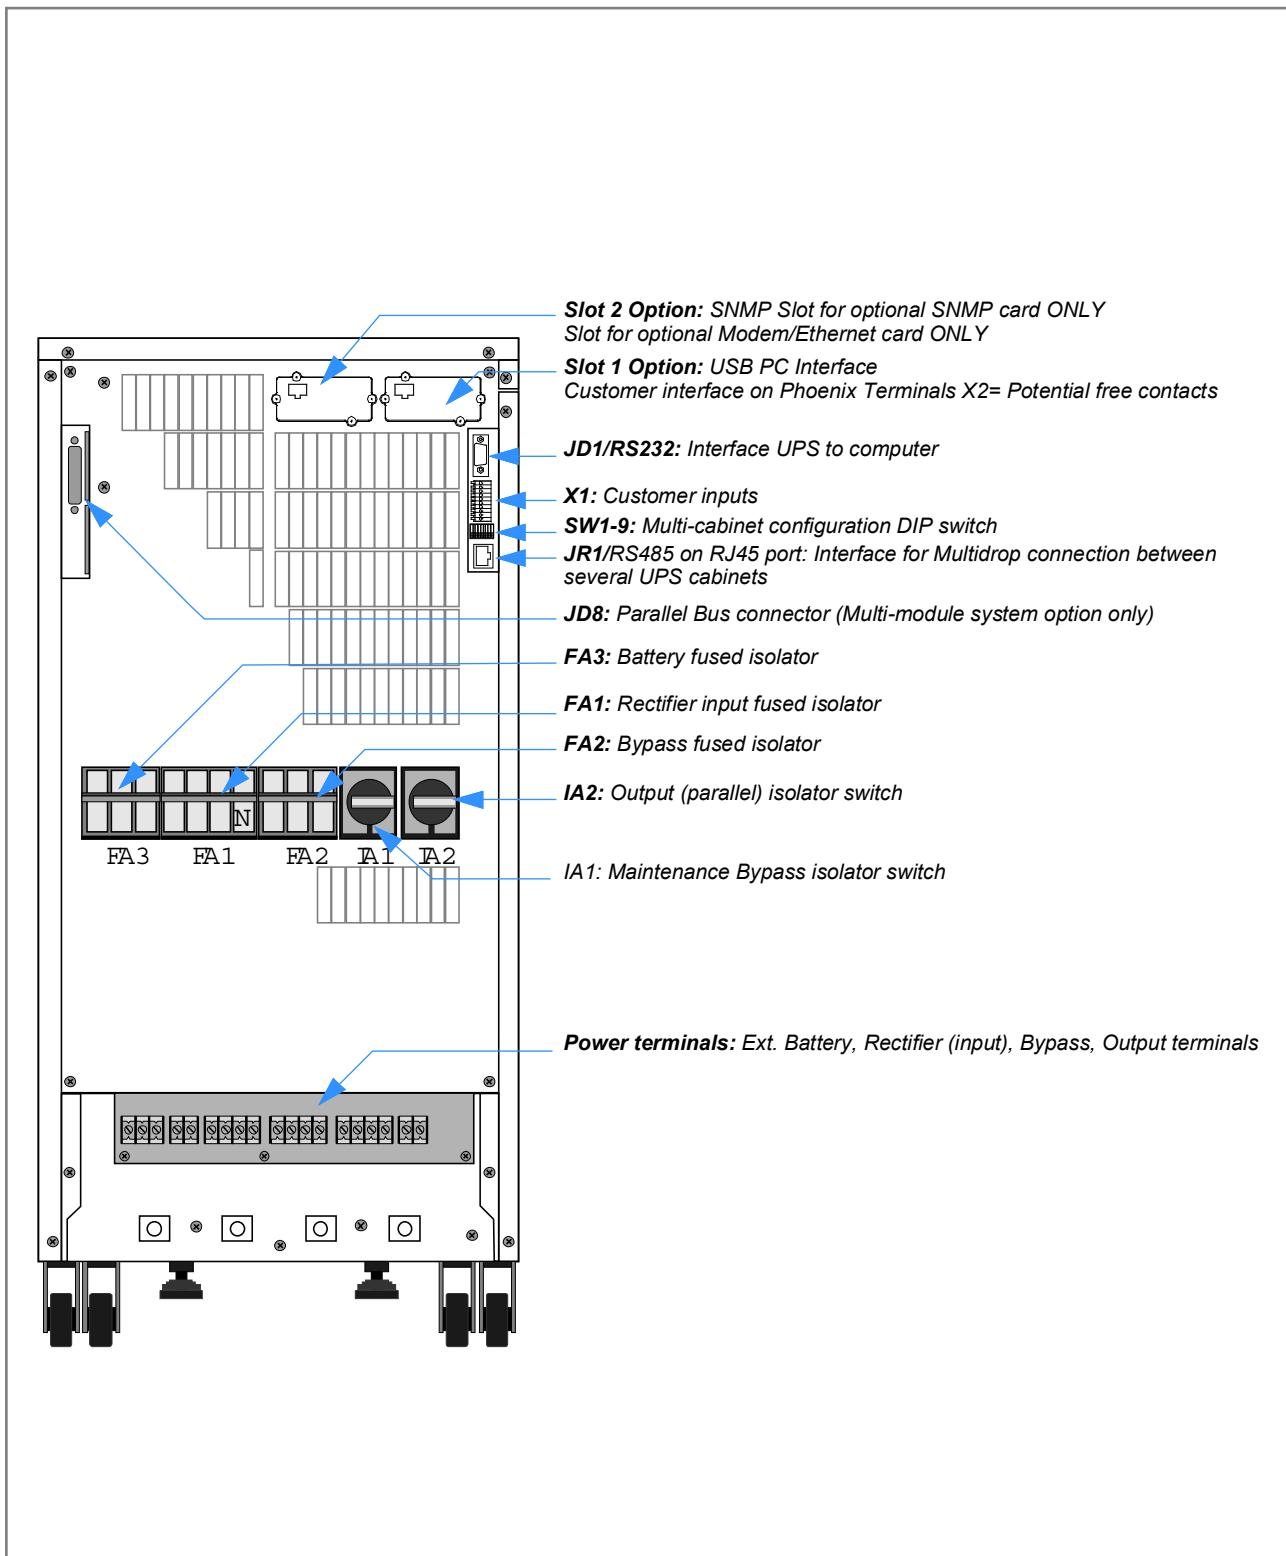

Figure 3.10 10 kVA–15 kVA Cabinet A connector details (rear view)
3. Connect the earth cable from the LV-Distribution Board to the protective earth (PE) busbar in the UPS, located adjacent to the power terminals, as shown in Figures 3.10, 3.11 and 3.12.
3. Connect the protective earth cable from the Load Distribution Board to the protective earth (PE) busbar in the UPS – located adjacent to the power terminals, as shown in Figures 3.10, 3.11 and 3.12.
2. Fit the Parallel Adaptor PCB (NW4019) to connector JD8 on all UPS-Cabinets (see *Figures 3.10 and 3.12*).